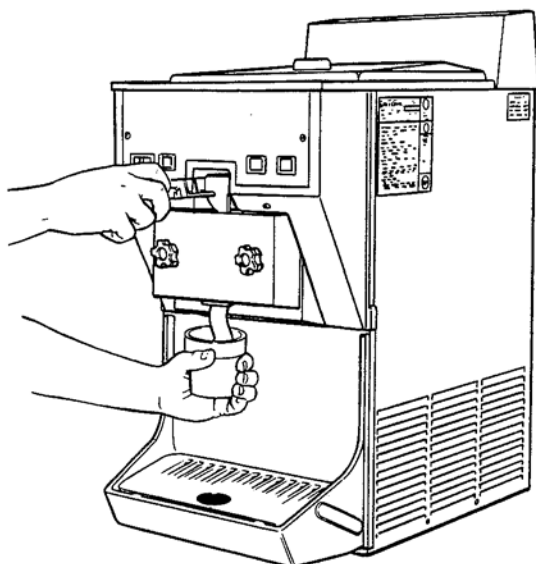

Figure 15. Dispensing Product
- G. For normal dispensing, move the spigot handle open 60° (Fig. 15).